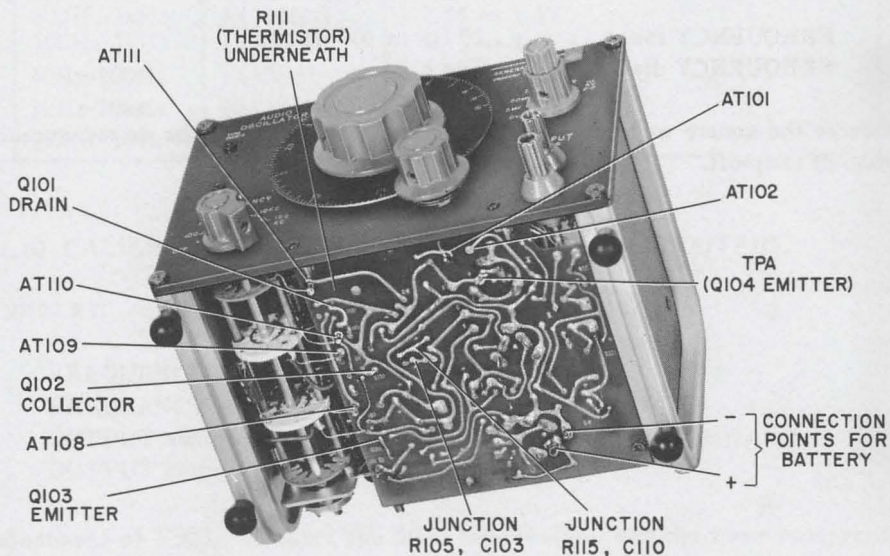

Figure 6-3. Bottom interior view.
**Adjustment of R503.** Connect the 50- $\Omega$  load resistor and the wave analyzer to the output of the Type 1309. Measure the second harmonic component (2 kHz) of the square wave. Adjust R503 (Figure 6-3) to minimize this component.
Adjust C302 (Figure 6-3) for minimum overshoot and fastest rise time on the leading edge. There should be no noticeable ringing.